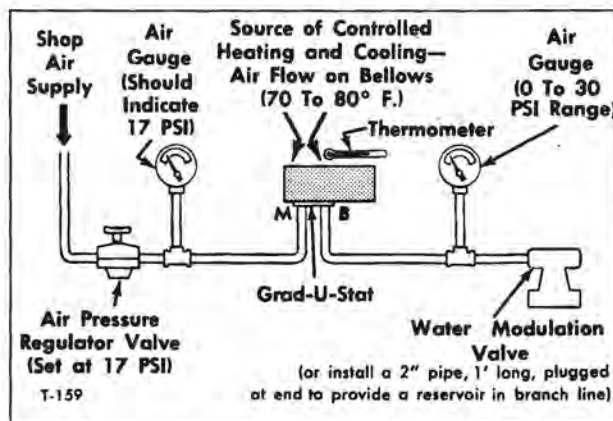

Figure 23—Grad-U-Stat Shop Test Arrangement
If the coach system is inoperative and there is no way to simulate operational conditions, a shop test will be required to check Grad-U-Stat. Figure 23 shows typical arrangement of equipment necessary to shop test unit.
1. Install Grad-U-Stat in shop test equipment as shown in figure 23.